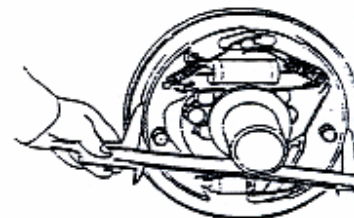
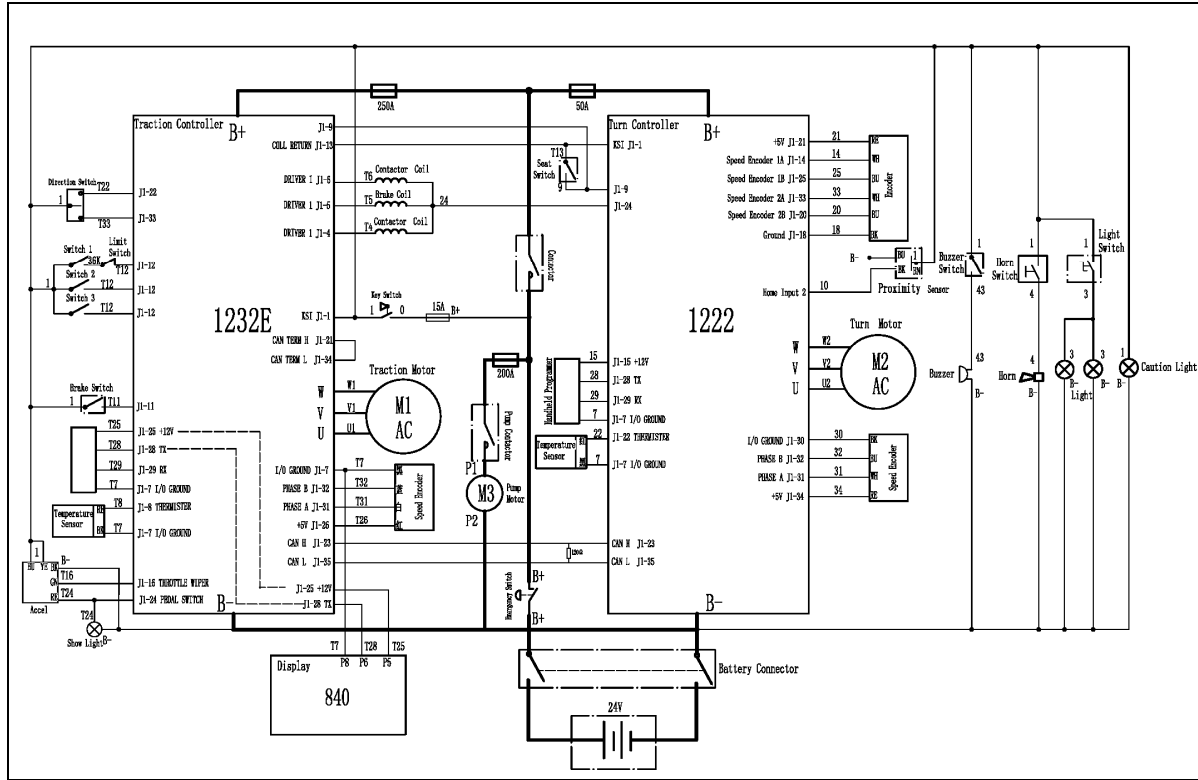

Figure 2-24
Figure 2-28 Schematic of electrical system of FE3R06-12
- (8) Mount the brake shoe guide plate to the support pin, and then mount the return spring of the brake shoe. First install the main shoe and then install the auxiliary shoe. See figure 2-28
- (9) Mount the regulator, the regulator spring, ejector Pin, return spring of the ejector Pin. The following points shall be noted:
- (10) Connect the brake pipelines with the wheel cylinders.
- (11) Measure the inner diameter of brake drum and outer diameter of brake shoe, and then use the regulator to set the difference between inner diameter of brake drum and outer diameter of brake shoe at 0.3mm-0.5mm. See figure 2-24
The electrical system of FE3R06-12 three-wheel AC electric forklift is powered by an 80V battery and traction is enabled by the AC motor. The lifting force is generated in a way as follows: the DC motor drive pump to generate oil pressure, and then hydraulic pipes work on the hydraulic cylinders on both sides of the frame to achieve lifting of the fork. The lighting system is powered by a 24V voltage. Schematic of electrical system See Figure 2-28